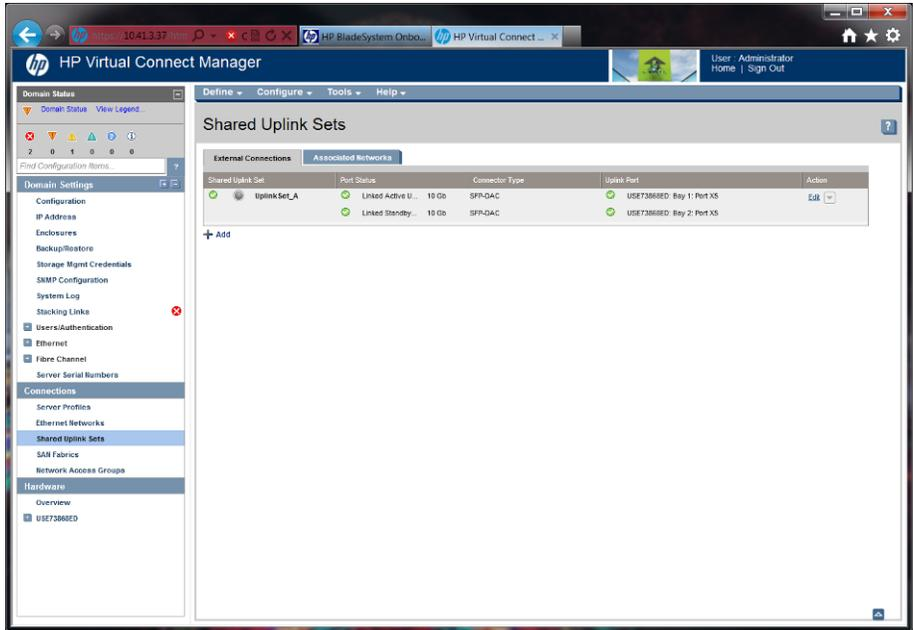

Figure 12: The Shared Uplink Sets screen.
1. From the management server, open a Web browser and navigate to the IP address of the HP c7000 Onboard Administrator (OA).
5. In the left pane of the Virtual Connect Manager, click Shared Uplink Sets. (See Figure 12.)